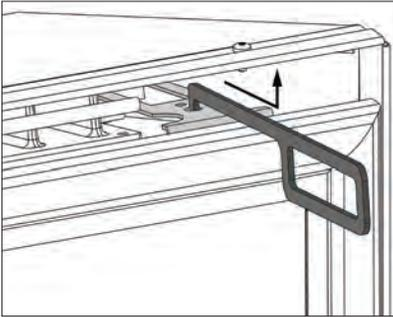
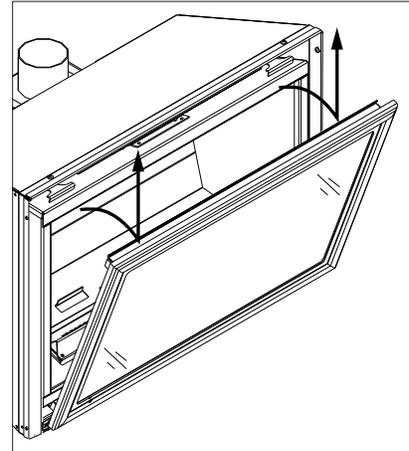

Figure 9: Door Release.
Figure 10: Door Removal.
Remove the glass door by placing the hooked end of the door release tool in the hole on the door latch mechanism (see Figure 9) and pulling the latch out then up over the lip on the door. When the two (2) latches have been released, tilt the door forward and then lift up to unhook the bottom door tabs (see Figure 10).